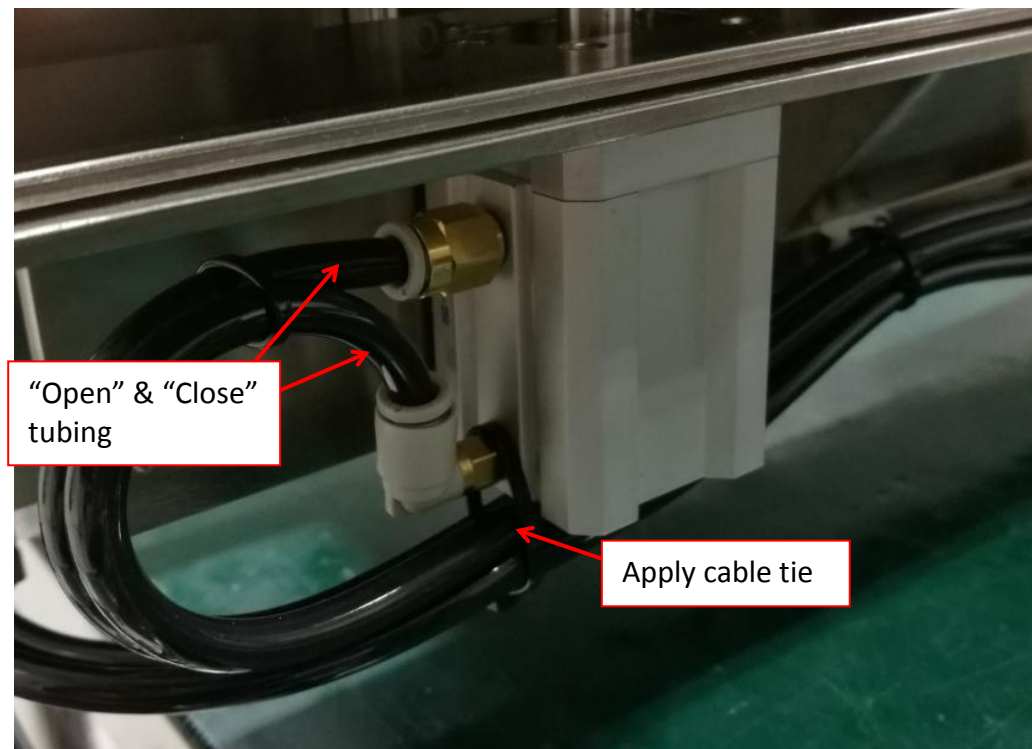

Figure 13 Tubing Assembly
4. By refer to previous label marking in step 8, gently plug “Open” & “Close” tubing respectively & apply necessary cable tie as shown in Figure 13.